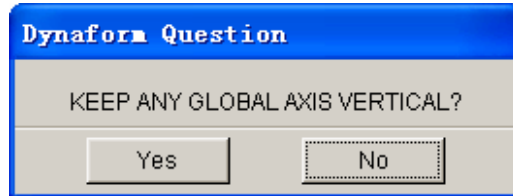

Figure 12.5.1 A eta/DYNAFORM Question dialog window
- The DYNAFORM QUESTION dialog window appears as shown in Figure 12.5.1.